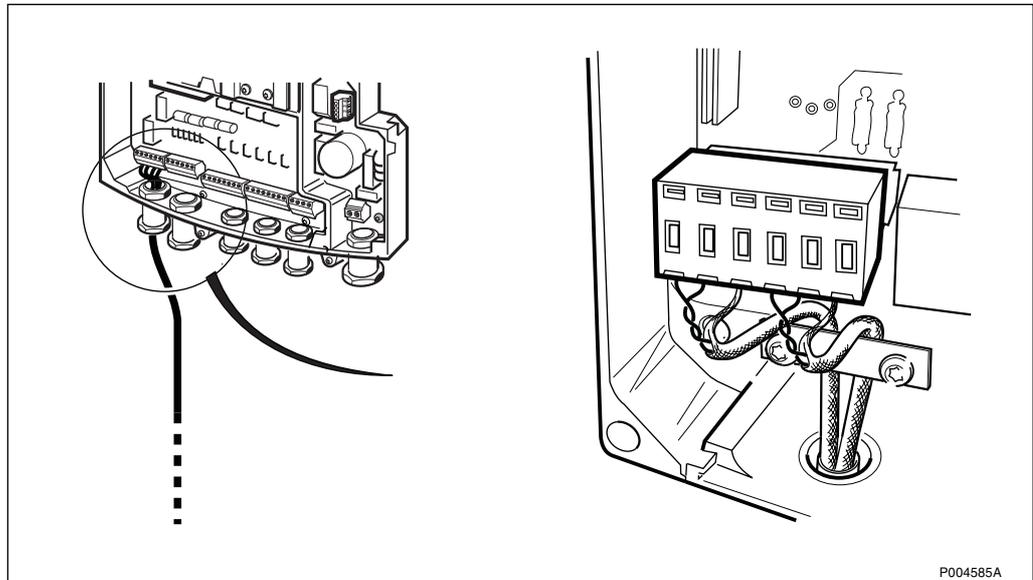

Figure 290 Principle of connecting twisted pair cable
5. See the *Figure 290 on page 238* to see the principle of connecting the twisted pair cable.